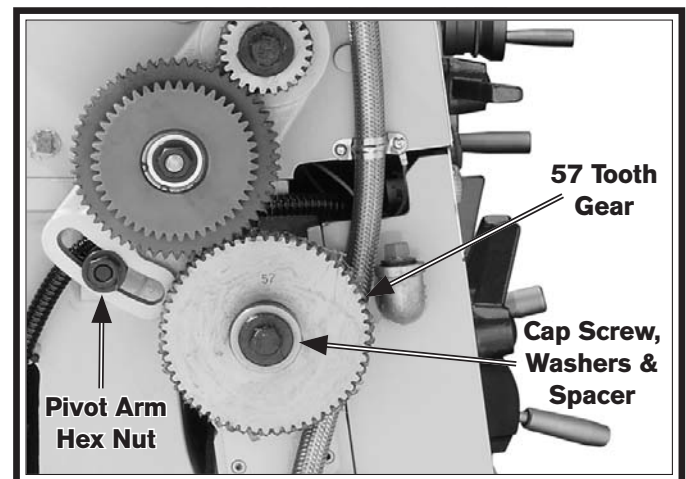

Figure 76. End gear components.
3. Remove the cap screw, lock washer, and flat washer from the 57T end gear (see **Figure 76**).
- Loosen the pivot arm hex nut shown in **Figure 76**, then swing the pivot arm to the left so that the 44T/56T gears are away from the 57T gear. Hand tighten the hex nut to keep the arm in place.